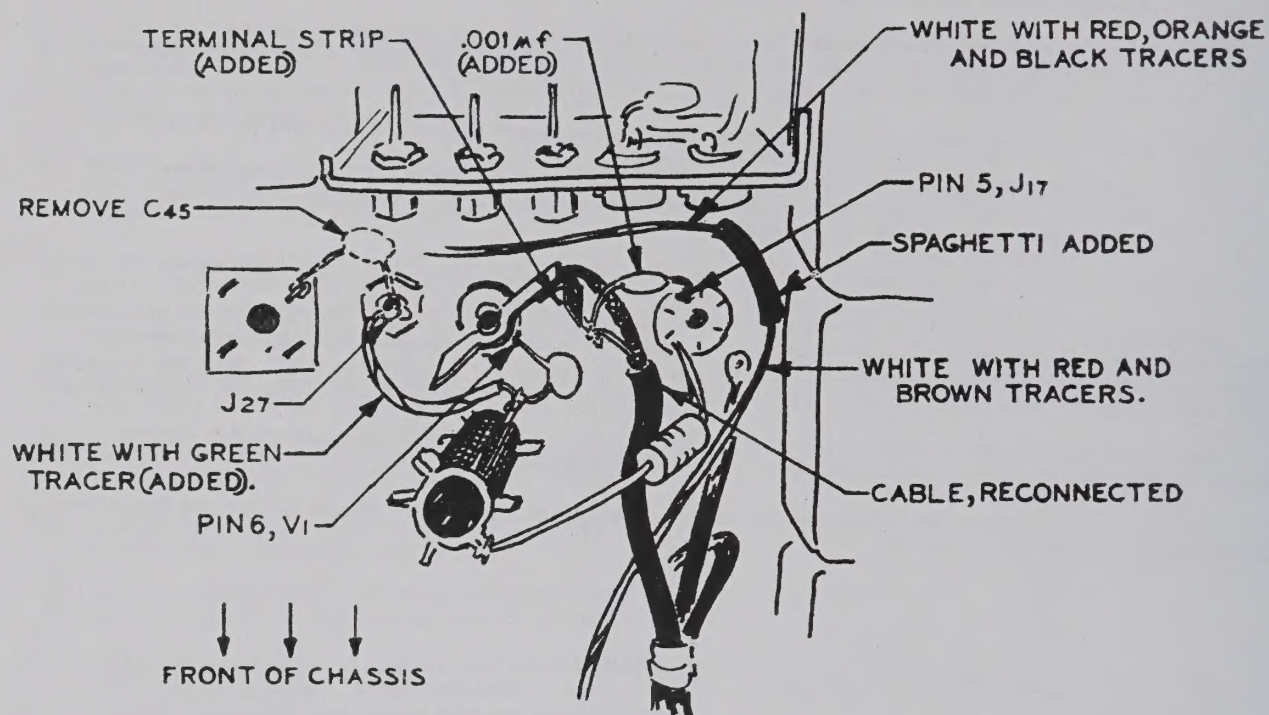

FIG. 1 KWM-2
11. Solder the larger lug of the 2-lug terminal strip provided to the silver plated shield on the tube socket for V1 as shown in Fig. 1.